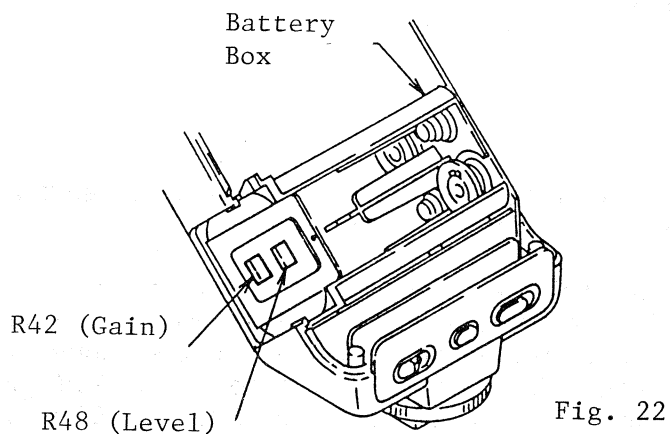

Fig. 22
- A. (Fig. 22) Remove the front panel and top cover. Remove R42 (gain) and R48 (level) resistors.
- A. (Fig. 22) The method is the same as the aperture control voltage adjustment (8.2) except that resistor R50 is removed and replaced with a 1M Ohm variable, initially set to about 500K Ohm.